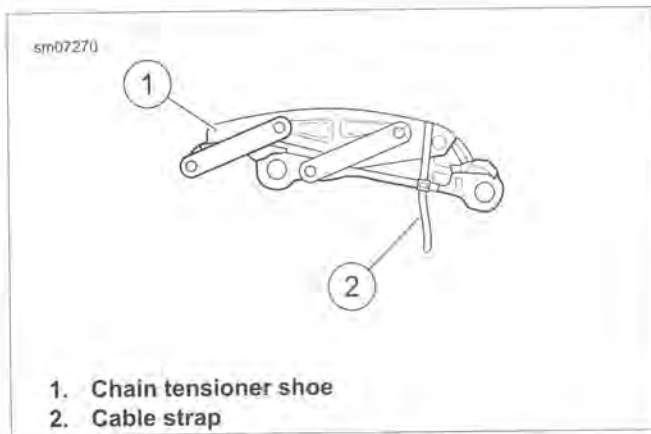

Figure 5-17. Securing Chain Tensioner
- See Figure 5-17. Push shoe (1) down until it contacts wedge. Keep tension on shoe so wedge stays in place.
- Insert cable strap (2) as shown to hold wedge in place. Verify end of cable strap is located below primary chain tensioner. Cable strap will hang below primary cover gasket surface and serve as a reminder to remove before installing primary cover.